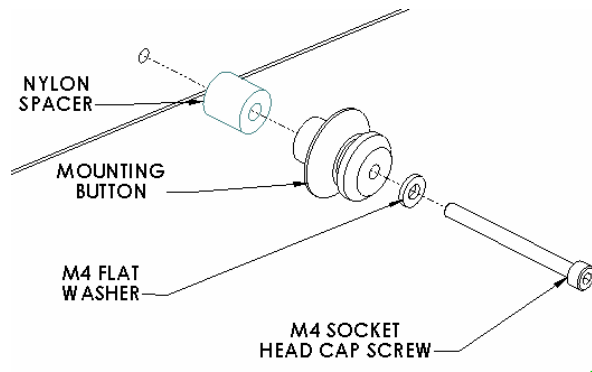
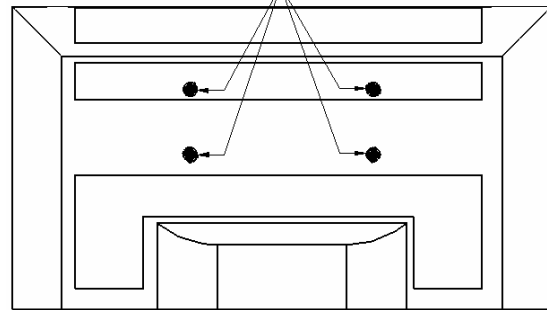

Figure 4
Figure 5
- 2) Attach mounting buttons and nylon spacers to display using four M4 x 45mm socket head cap screws and M4 flat washers provided (see Figure 4 and Figure 5).